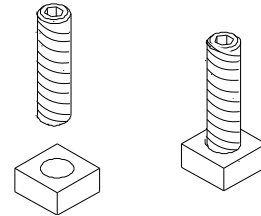

Figure 25.2
8. Thread Allen bolts through nuts until flush (Figure 25.2)